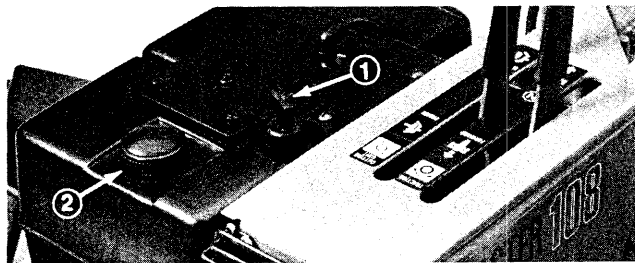

Figure 10
1. Remove fuel cap and fill tank to a level 1 in. (25 mm) below the bottom of the fill hole with a good grade of clean, fresh unleaded gasoline (Fig. 10).
2. Wipe up any spilled fuel and replace fuel cap (Fig. 10).